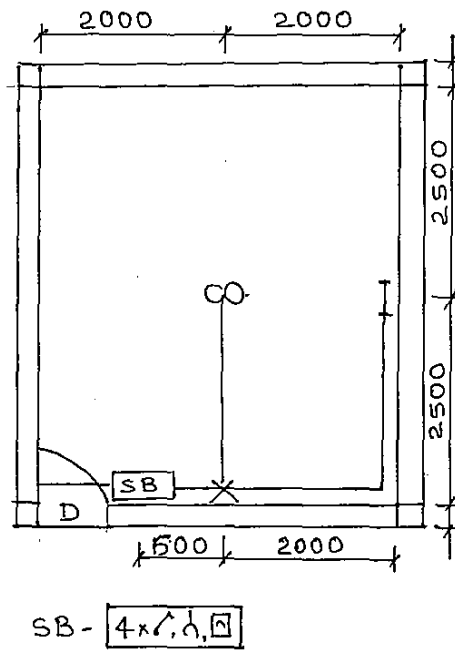

Figure 2.
- 1) State the size of copper and aluminum conductor for lighting and power sub-circuits. (2)
- 2) State the rules related to distribution of lighting and power sub-circuit in residential installation. (2)
- b) The installation plan of a room is shown in Figure 2 is to be provided with PVC surface conduit wiring. Assume wattage of ceiling fan 65 watt, tube light 40m watt, lamp 100 watt and 6 A socket outlet 100 watt. Also assume height of room- 3 m, height of switch